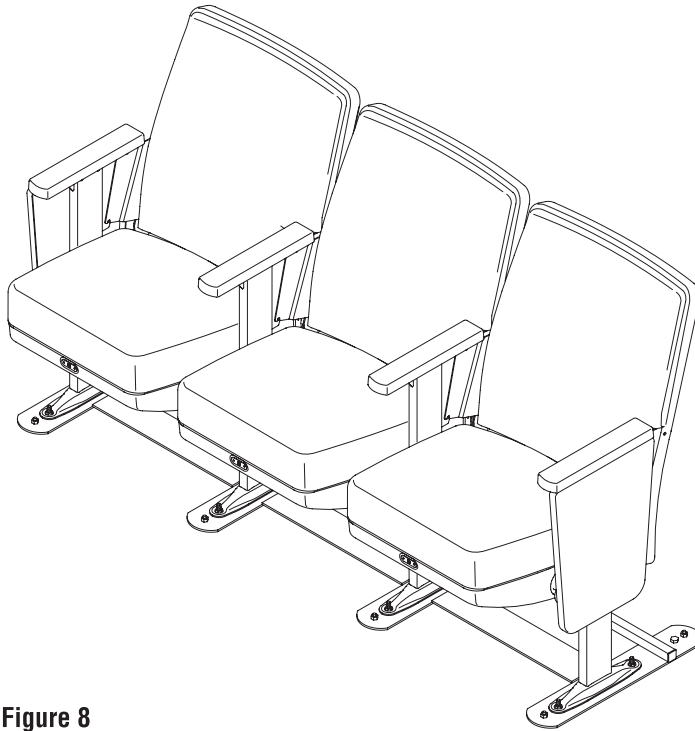

Figure 8
6. Reposition the ADA unit and secure it to the floor, following floor fastening requirements (Figure 8).